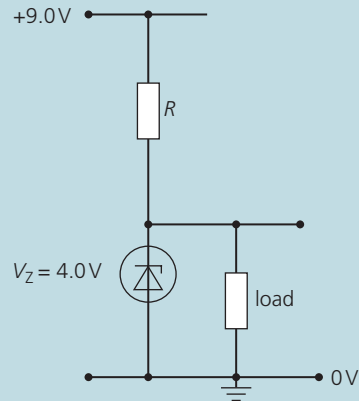

Figure 17
- 9. The circuit in Figure 17 shows a Zener diode connected as a voltage reference in series with a resistor  $R$ .